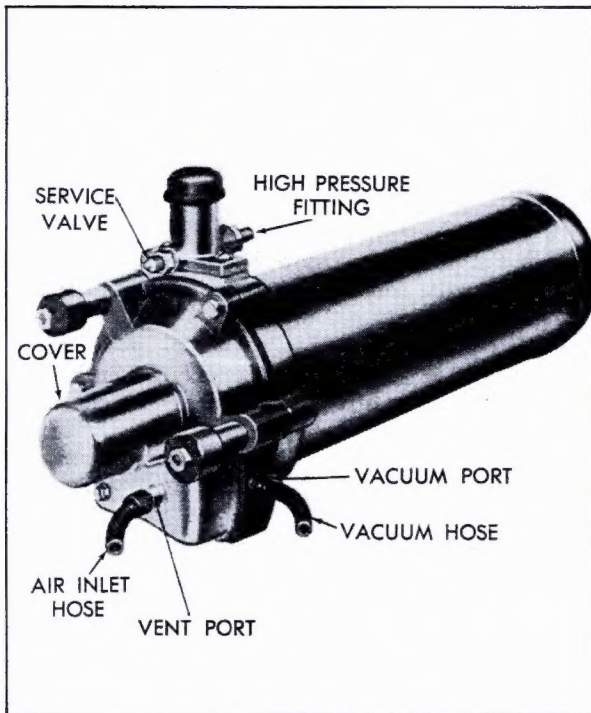

Fig. 4-9 Compressor Hose Locations
4. Install air inlet hose to vent fitting, Fig. 4-9.